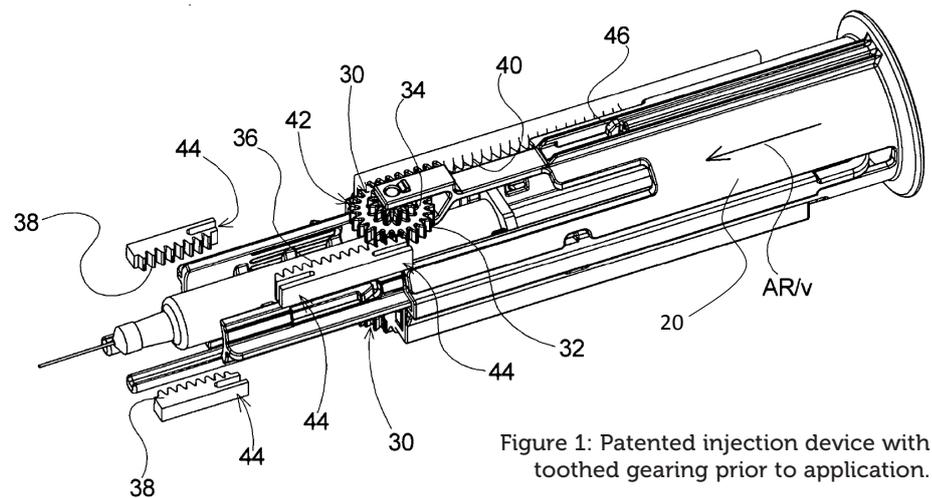
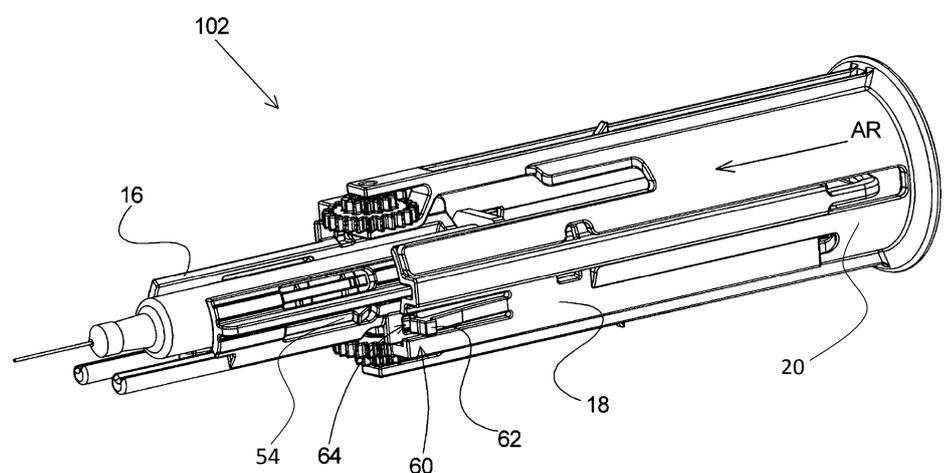

Figure 1: Patented injection device with toothed gearing prior to application.
Figure 2: Patented injection device with toothed gearing during application.
At the beginning of the injection process the actuation element (20) is being moved with a force in the direction AR (Figure 1). The two-tier gearwheel (30) meshes with the first housing-side tothing (36) and the ram-holder-side tothing (40). The effect is that the ram holder (18) moves with double the speed of the actuation element (20) in the direction AR (Figure 2).
After the insertion stroke is completed (Figure 2), the engagement element (62) evades into a recess in the housing. That interrupts the interconnection between syringe holder (16) and ram holder (18). The ram holder (18) keeps on moving, empties the syringe and remains for a reasonable dwell time. This dwell time is adjustable over a wide range, using the relation between driving force, distance between the housing-side toothings and damping behaviour.